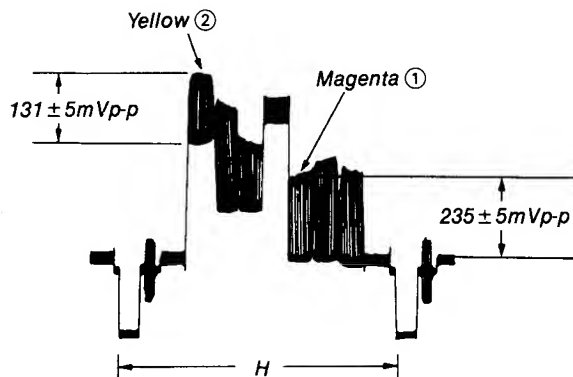

Fig. 7-36.
- 2) Adjust an amplitude of "magenta" to  $235 \pm 5\text{mVp-p}$  with RV808 of the VC-22 board. (See Fig. 7-36 ①)
- 3) Adjust an amplitude of "yellow" to  $131 \pm 5\text{mVp-p}$  with RV827 of the MX-2 board. (See Fig. 7-36 ②)